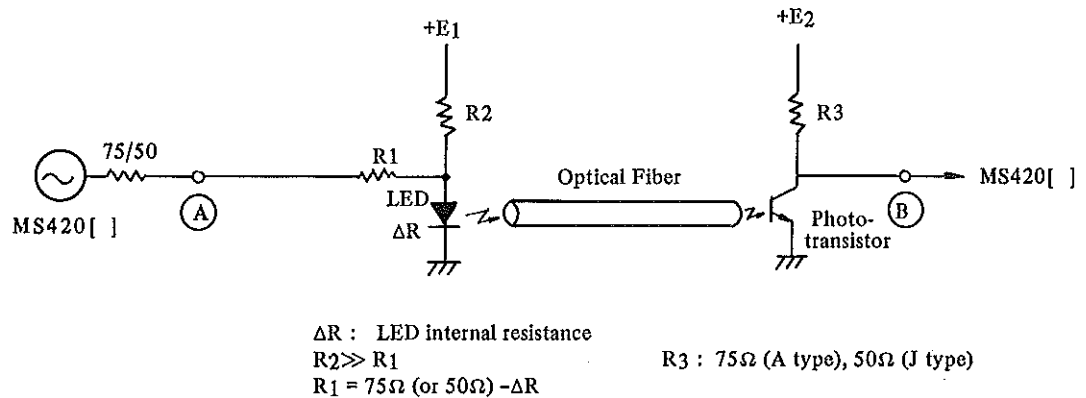

Fig. 4-10 Optical Element
Connect a low distortion signal source to (A) of Fig. 4.10 and evaluate distortion from the spectrum at (B) point.